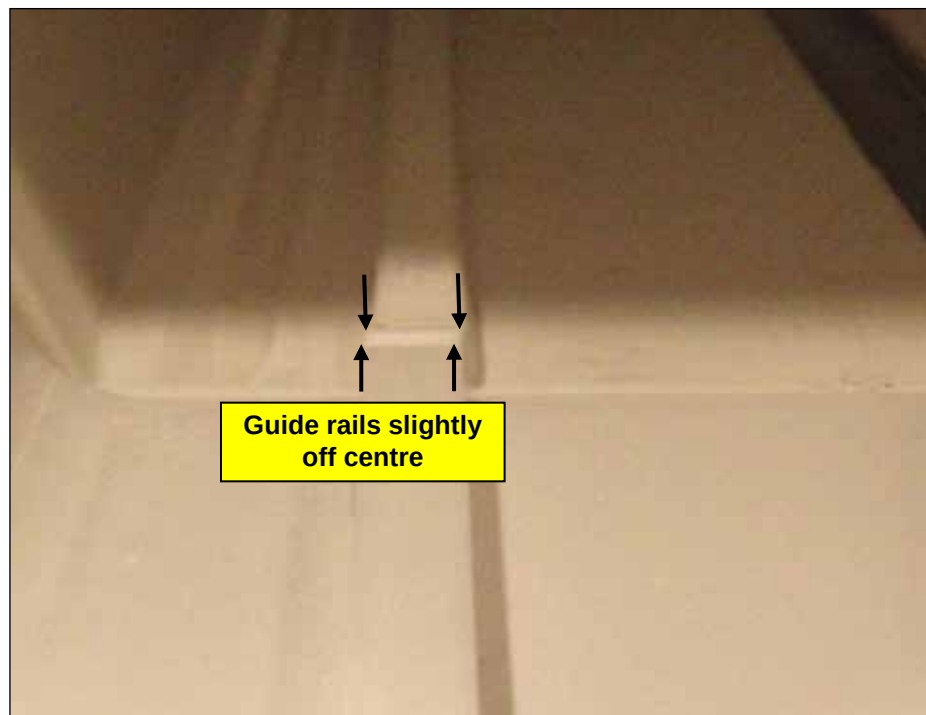

Figure 43
2. Undock the stretcher and ensure the guide rails are collinear (Figure 43) by turning the threaded brass body of one bumper spring plunger. For every turn or fractional turn, apply the *opposite* number of turns to the other bumper spring plunger (Fig 7.7.2). Applying the opposite adjustment on each side ensures no increase or decrease of docking force. Dock and undock the stretcher to check the effectiveness of the alignment adjustment.